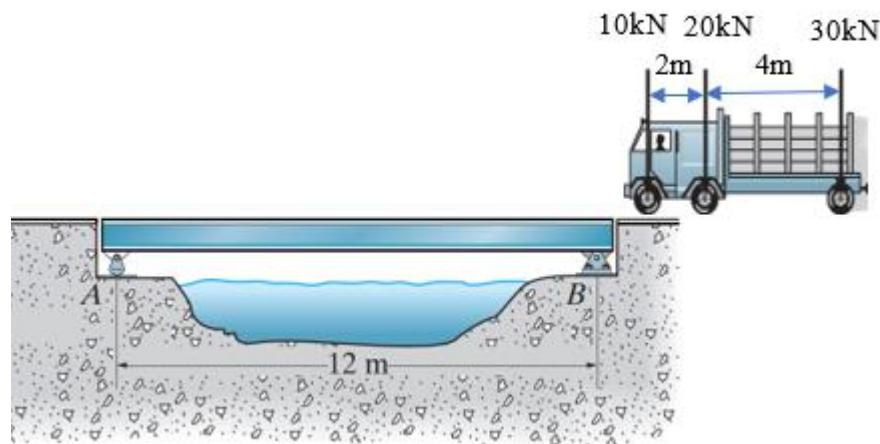

Figure A2(b)/ Rajah A2(b)
- CLO3 (b) A 12 m long simply supported beam carried a series of concentrated loads as shown in Figure A2(b) below. Evaluate the absolute maximum moment in the beam produced by the wheel loads by using Influence Line Diagram.